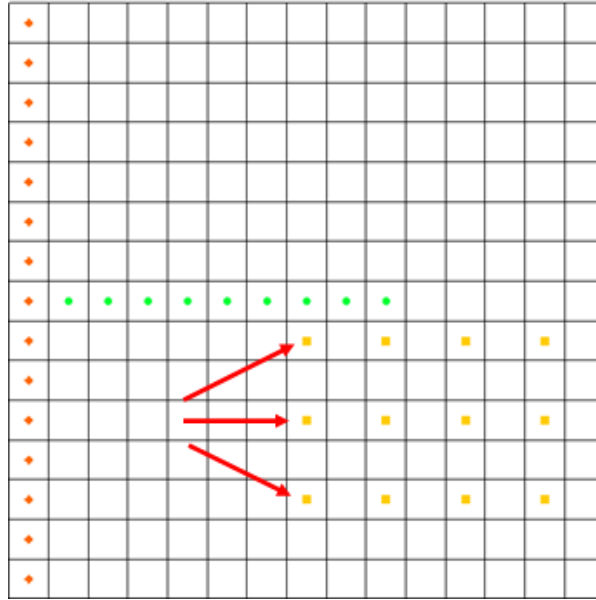

Figure 7 Rows with wells (twelve yellow squares)
- Using the **Select Cells**  tool while holding down the *Ctrl* key, select the cells shown in Figure 7 (the twelve cells containing yellow squares, rows indicated by red arrows). The coordinates of each well are shown in the table to the right.